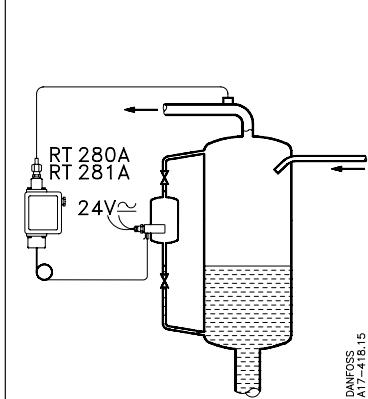
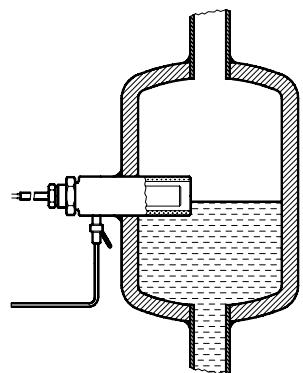

Fig. 2
Fig. 3
See figs. 2, 3, and 4.
The weld bushing should be mounted vertically so that the lower edge of the bulb is at the same heights as the max. permissible liquid level (fig. 2) or, when used as a liquid level control, at the same height as the liquid level required (fig. 3).
a. Safety cut-out (fig. 2):
b. Liquid level control (fig. 3):
Se fig. 2, 3 og 4.
væskeneiveau (fig. 2) eller ved anvendelse som niveauregulator i højde med det ønskede væskeni-veau (fig. 3).